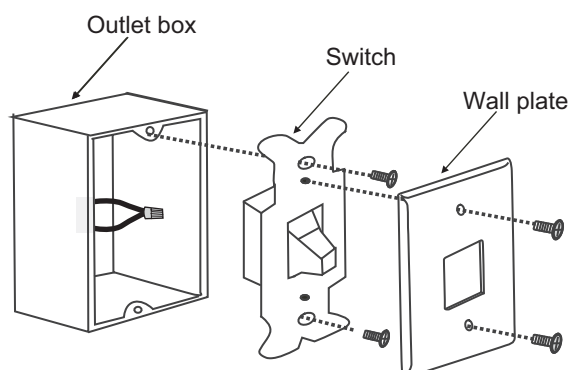

Figure 1
1. Remove the existing wall plate and the old switch from the wall outlet box. Wire nut the BLACK leads (hot) together and push them back inside the outlet box. (Fig. 1)